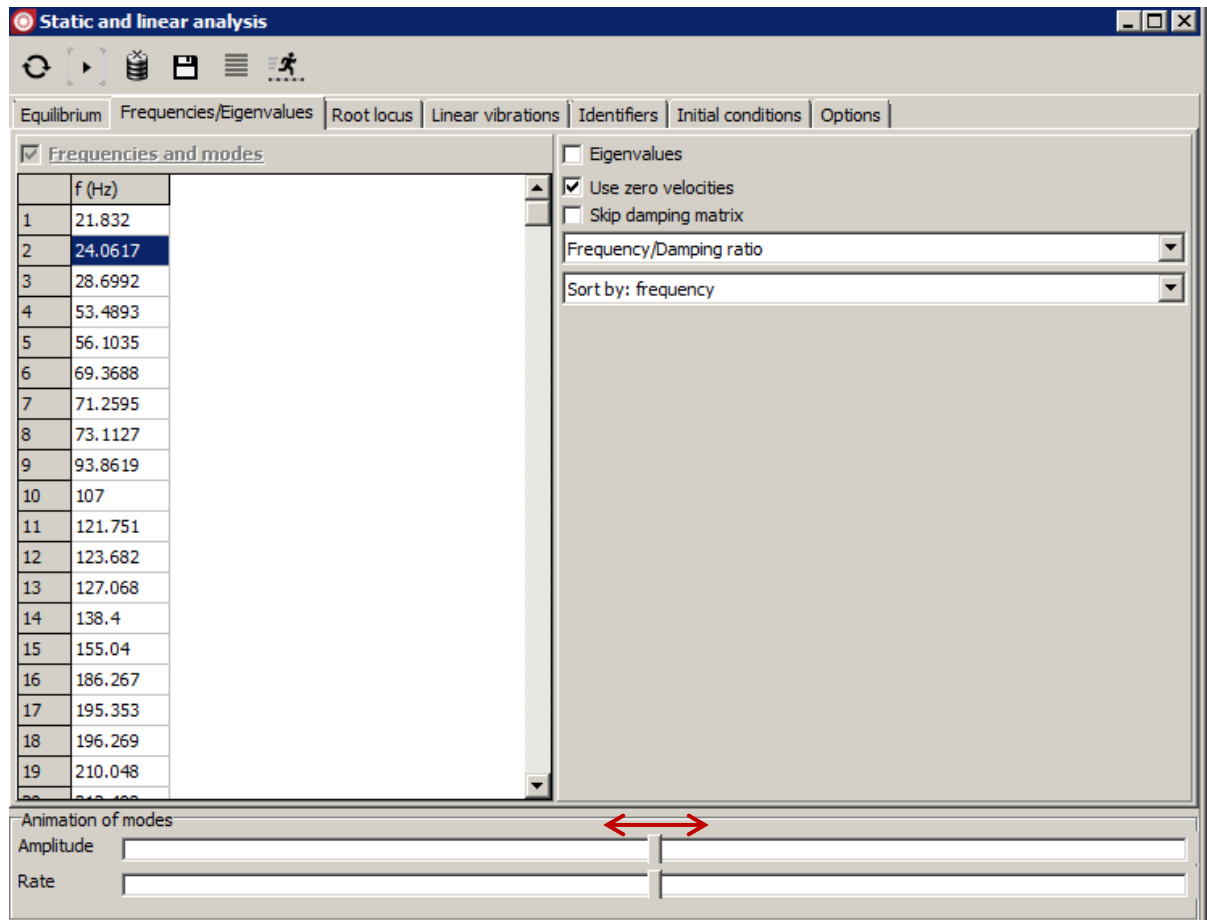

Figure 2.54.
5. Select the **Frequencies/Eigenvalues** tab. Natural frequencies of the model are calculated after selecting button , Figure 2.54. You can change **Amplitude** and **Rate** of the animation of vibrations.